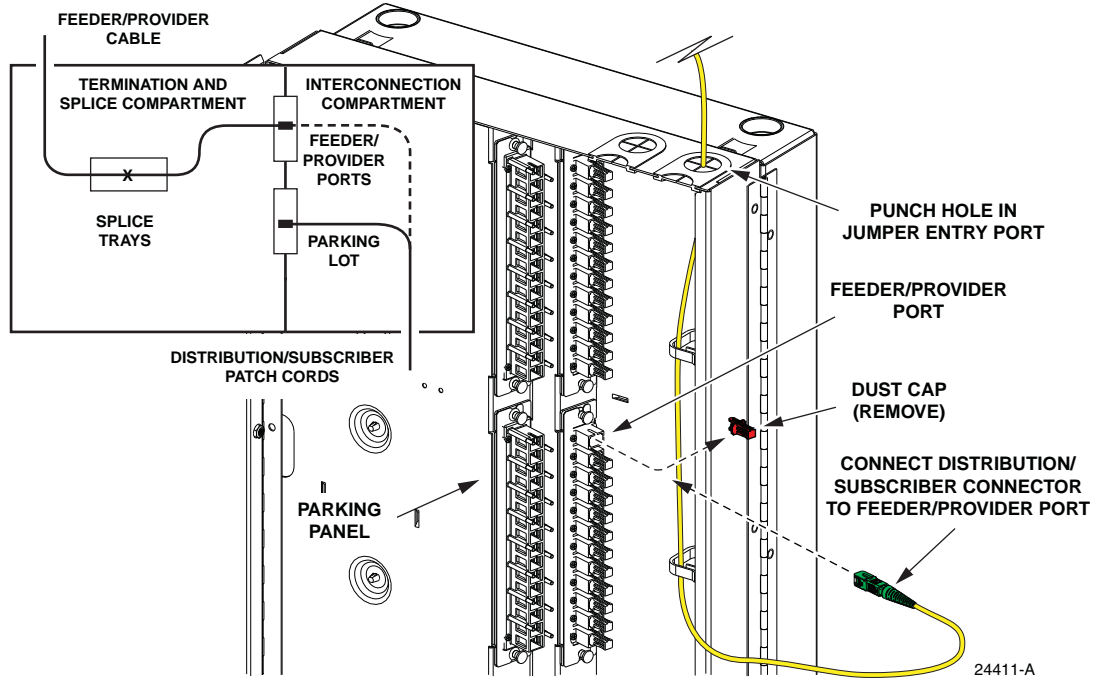

Figure 12. Interconnections – 24-Port IFDT Without Pre-Installed Distribution/Subscriber Pigtails
**24-Port IFDT without pre-installed distribution/subscriber pigtails:** The distribution/subscriber equipment patch cord connectors are temporarily parked in one of the parking lots. Service is initiated when a patch cord connector is moved from the parking lot to the appropriate feeder/provider port as shown in Figure 12.